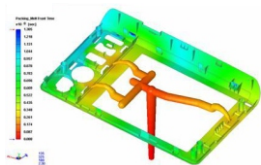

Fig.1 The melt front simulation of cover component of 3C products
1. Observe the simulation of melt front, and users can understand the injection behavior of the melted plastic material from nozzle to cavity. As the melt front analyses show, users can acquire the pressure required for runner and gating and evaluate pressure drop condition to determine adequacy of runner layout and gate type (Fig. 1~3).